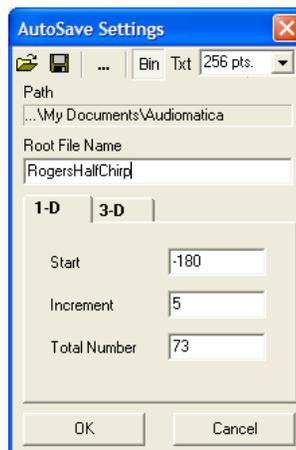

Fig.5.3a Autosave settings - 1D mode
**Path** defines the folder where the file will be saved; it is possible to choose it clicking on the browse for folder button (...). In Fig.5.3a we see path defined as My Documents\Audiomatica